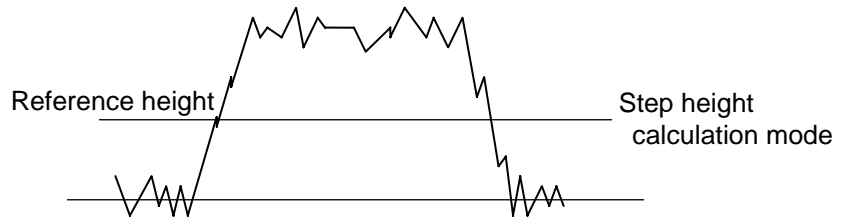

Figure 2 Retrieval of step part
- B. Retrieves parts higher than the reference height (lower part in case of a concave step) and removes the deletion length. The range thus obtained is specified as a calculation range for average height, maximum height and minimum height. (See Figure 2,3.)